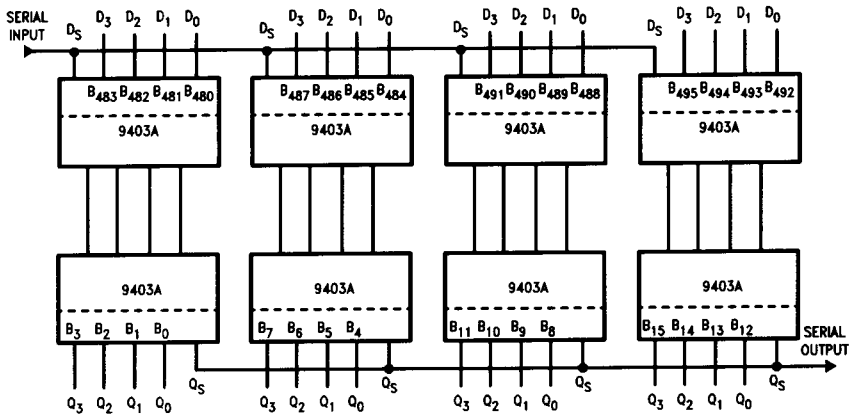

FIGURE 9. Final Position of a 496-Bit Serial Input
**Horizontal and Vertical Expansion**—The 9403A can be expanded in both the horizontal and vertical directions without any external parts and without sacrificing any of its FIFO's flexibility for serial/parallel input and output. The interconnections necessary to form a 31-word by 16-bit FIFO are shown in *Figure 6*. Using the same technique, any FIFO of  $(15m + 1)$ -words by  $(4n)$ -bits can be constructed, where  $m$  is the number of devices in a column and  $n$  is the number of devices in a row. *Figures 7 and 8* show the timing diagrams for serial data entry and extraction for the 31-word by 16-bit FIFO shown in *Figure 6*. The final position of data after serial insertion of 496 bits into the FIFO array of *Figure 6* is shown in *Figure 9*.